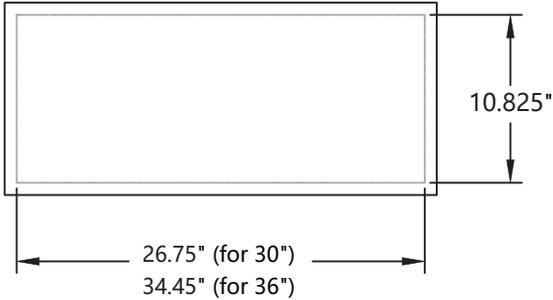

Figure 3
- 4 Cut out the opening where the insert will be installed. Refer to Figure 3.